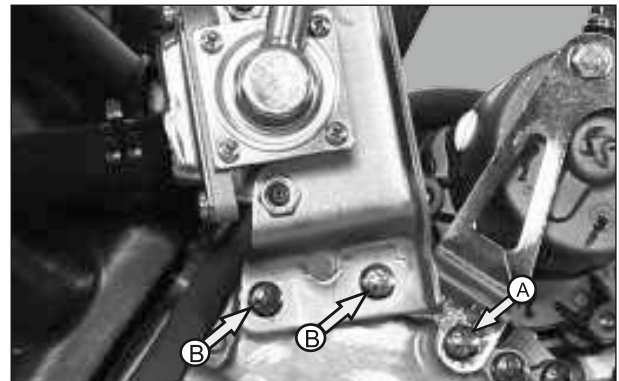

Fig. 3.165
- Assemble the sai unit along with bracket mounting starter motor. Tighten 1 no. hexagonal flange bolt M6x50 (A) and tighten the 2 nos. hexagonal flange bolt M6x16 (B). (Fig. 3.165)
- Re assemble the SAI pipe to the exhaust side of the cylinder block and tighten 1 no. hexagonal Flange bolt M6X16 along with spring washer.( Fig. 3.165)